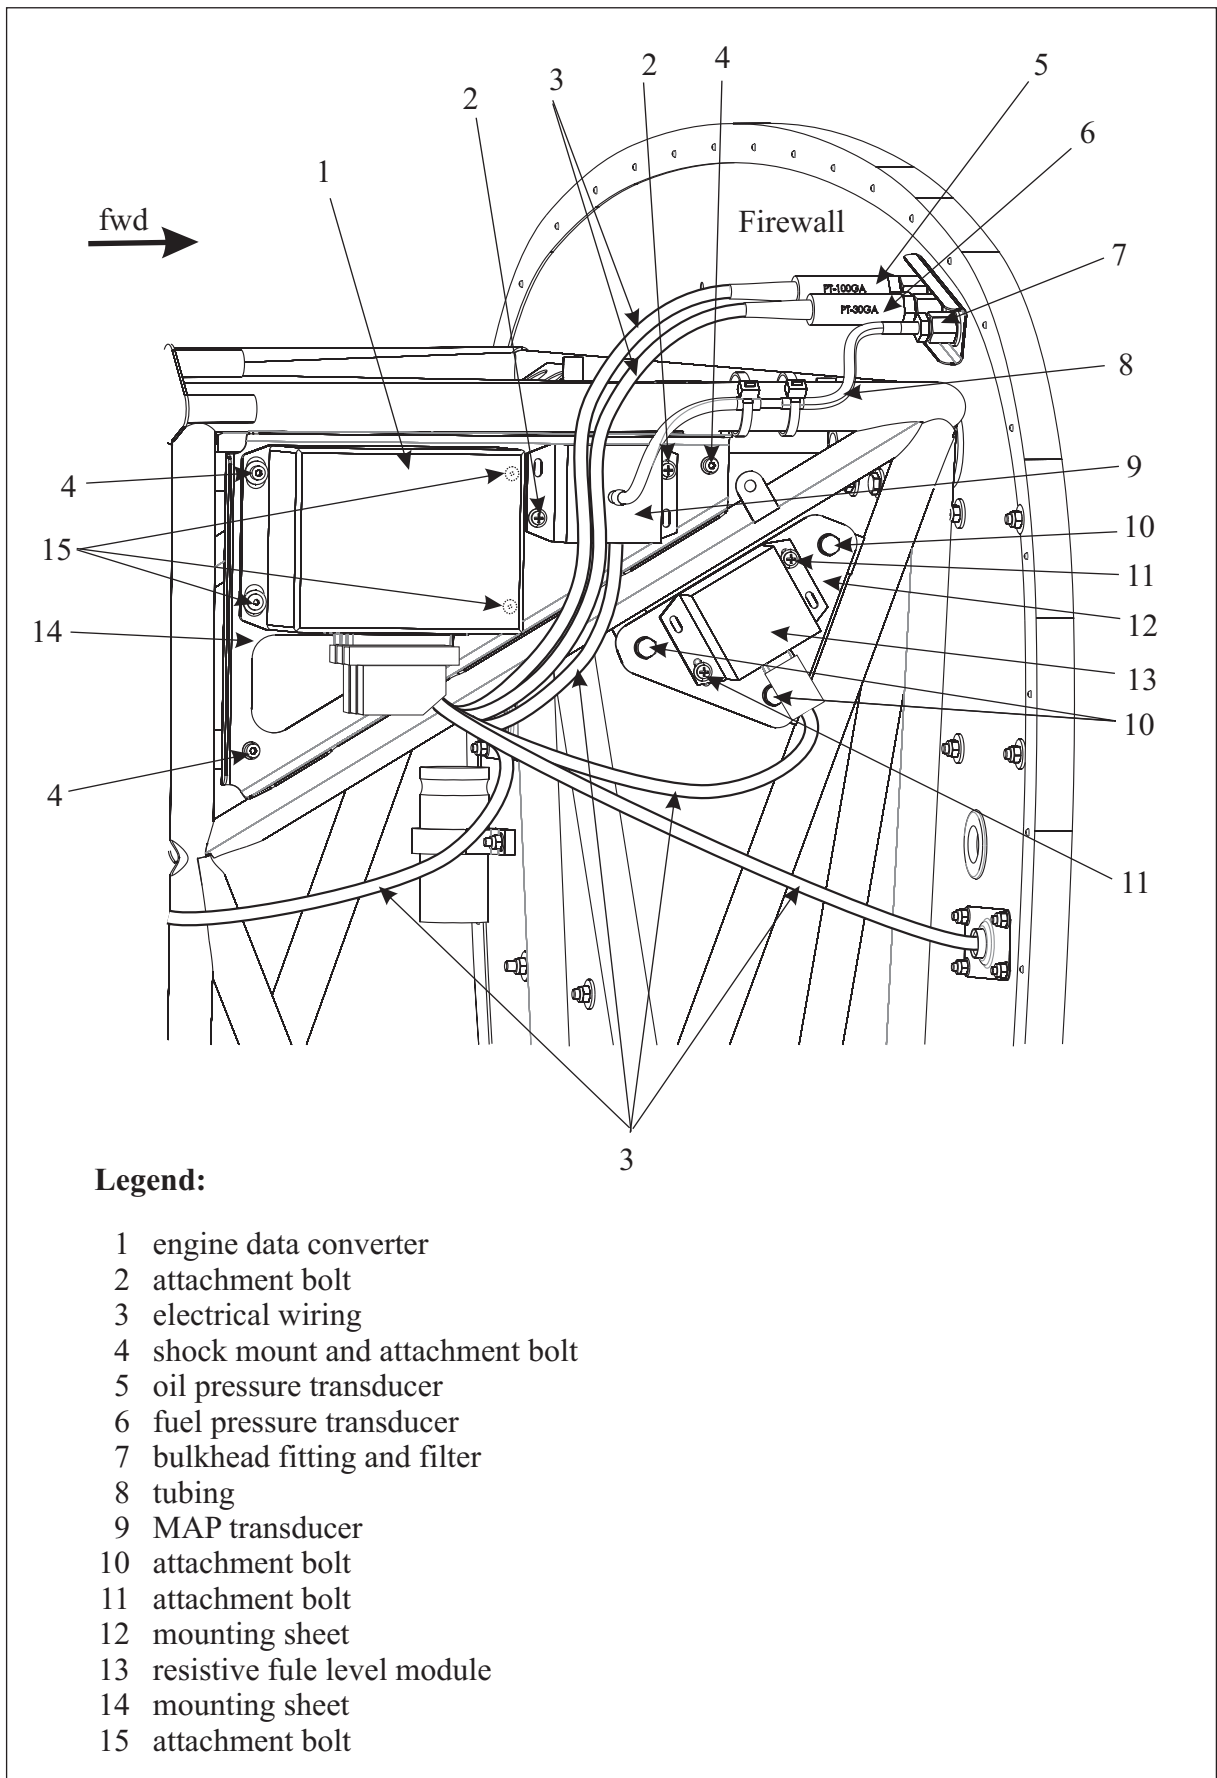

Figure 5
To carry the engine data converter (1, Figure 5) and two modules (9, 13) mounting sheets (12, 14) are installed on the right side of the fuselage just behind the firewall.
- 2 Remove the electronic data converter (1, Figure 5) and/or the respective module (9, 13) as per following sections.
- 3 Remove the attachment bolts and shock mounts (4) or the attachment bolts (10) and remove the mounting sheet.
- 2 Disconnect the electrical wiring (3) from the electronic data converter (1, Figure 5).
- 3 Remove the upper left shock mount and attachment bolt (4) and the attachment bolts (15) and remove the electronic data converter (1).
- 2 Disconnect the electrical wiring (3) and tubing (8) if applicable from respective module (9 or 13, Figure 5).
The oil (5, Figure 5) and fuel (6) pressure transducers are screwed to the respective fittings on the firewall.